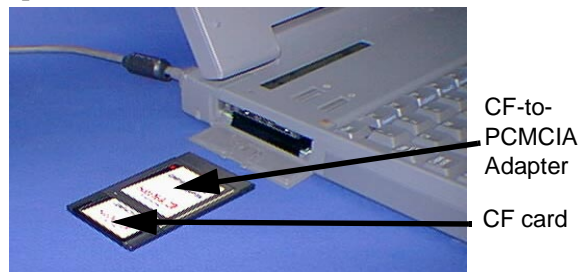

Figure 4-9 CF-to-PCMCIA Adapter
3. Insert the CF card into the PC's PCMCIA slot, using the CF-to-PCMCIA adapter as shown in *Figure 4-9*, or into a CF card reader.